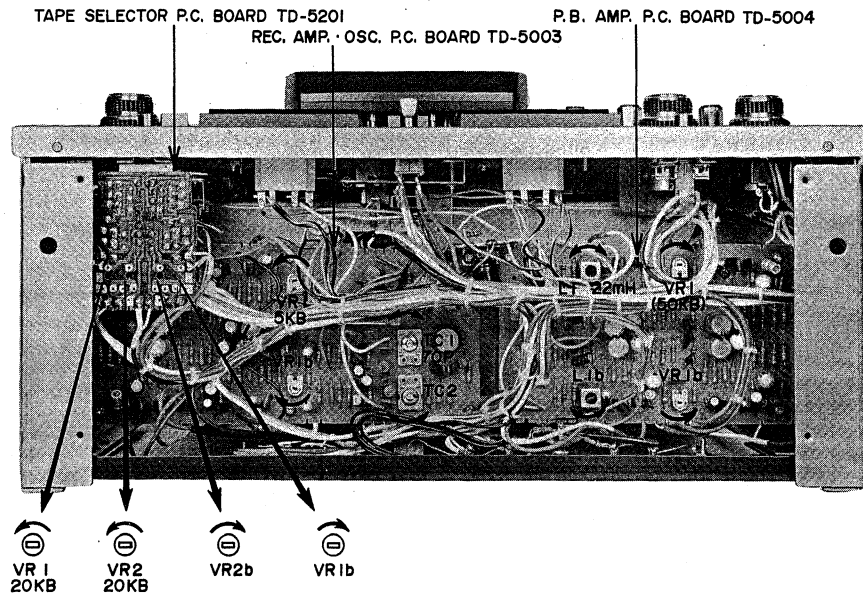

Fig. 21
- 4) Adjust semi-fixed resistors VR1 50 k Ω (left ch.) and VR1b 50 k Ω (right ch.) of P.B. Amp. P.C. Board (Fig. 21) to obtain a 0 dBm ("0" VU) line output level on both channels.
- 7) Adjust semi-fixed resistors VR1 5 k Ω (left ch.) and VR1b 5 k Ω (right ch.) of Recording Amp. OSC., P.C. Board (Fig. 21) to obtain a 0 dBm ("0" VU) line output level on both channels.
- 7) Adjust semi-fixed resistors VR1 20 k Ω (left channel) and VR1b 20 k Ω (right channel) of tape selector P.C. Board (Fig. 21) to obtain a 0 dBm ("0" VU) line output level on both channels.
NOTE: 1) In the case of wide range tape, set Tape Selector to WIDE RANGE position and use AKAI S.R.T. tape and adjust semi-fixed resistors VR2 20 k Ω (left ch) and VR2b 20 k Ω (right ch) of tape selector P.C. Board (Fig. 21) in the same way as outlined in article 4.
- 5) Switch the oscillation frequency of the audio frequency oscillator to 10,000 Hz from the condition outlined in item 5-4)
- 6) Adjust trimmer condensers TC1 70P (left ch) and TC2 70P (right ch) of Recording Amp. OSC., P.C. Board (Fig. 21) to obtain the same level on both channels at both of the two frequencies mentioned in items 5-4) and 5-5).